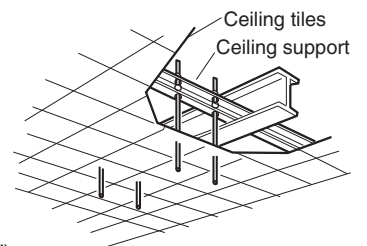

Fig. 3-12
- b) Use existing ceiling supports or construct a suitable support (Fig. 3-12).